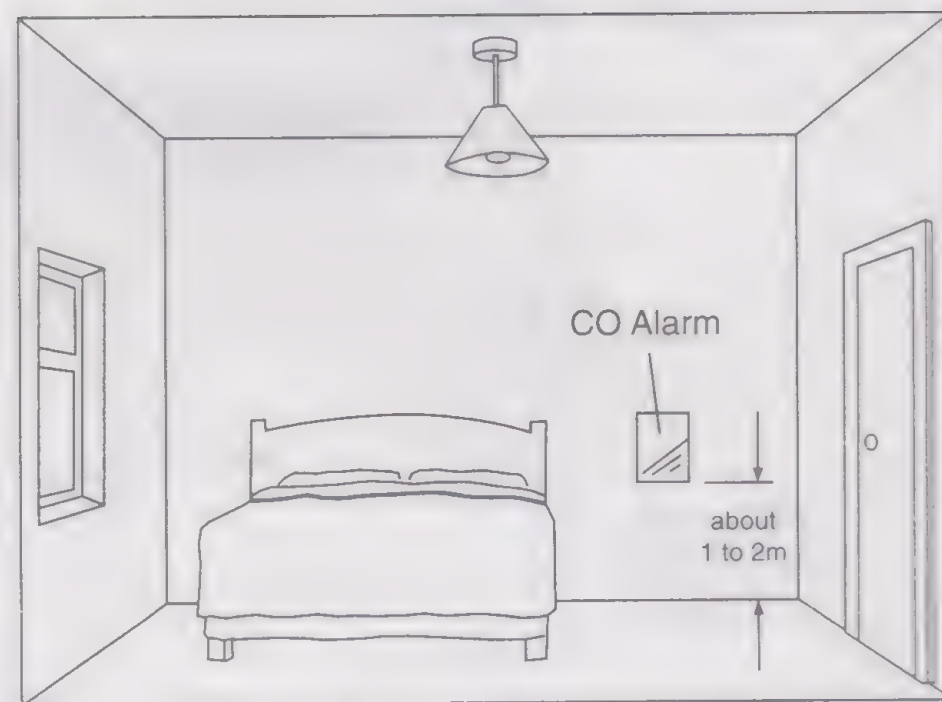

Figure 4. Location in bedrooms & other rooms remote from the appliance (i.e. at breathing level)
4.32 If locating the CO alarm in a bedroom or in rooms remote from a fuel burning appliance (see figure 4)